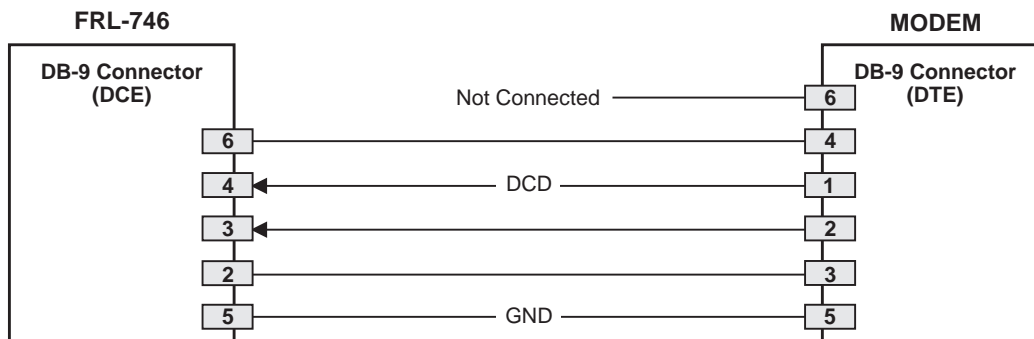

Figure 5. Connecting the FRL-746 List 3A to a Modem
When configuring a modem, ensure that either the DIP switches or the software configuration is set OFF for Carrier Detect (CD) override. This causes the modem to send a CD signal when it connects with another modem and to drop CD when it disconnects. Otherwise, if set ON, the FRL-746 List 3A connection will function properly but will not log out properly when disconnected. Using Data Carrier Detect (DCD) from the modem ensures that the FRL-746 List 3A logs off if the carrier signal disappears. Figure 5 shows the pinouts for connecting the FRL-746 List 3A to a modem using a null-modem cable.